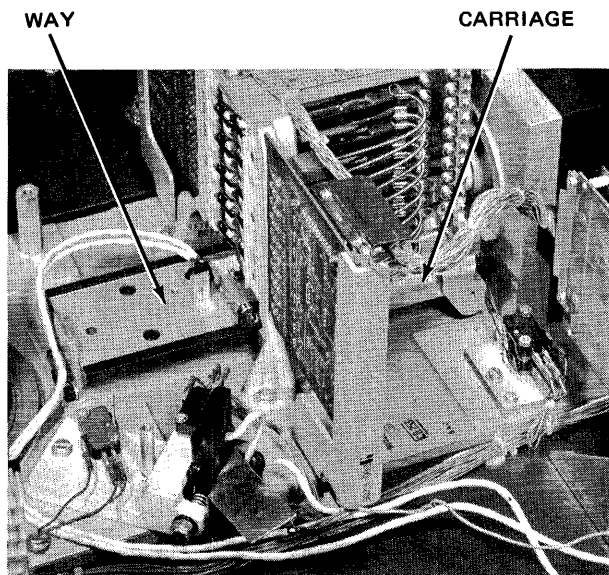

Figure 4-17. Carriage and Way
- b. Inspect carriage and way (see Figure 4-17).